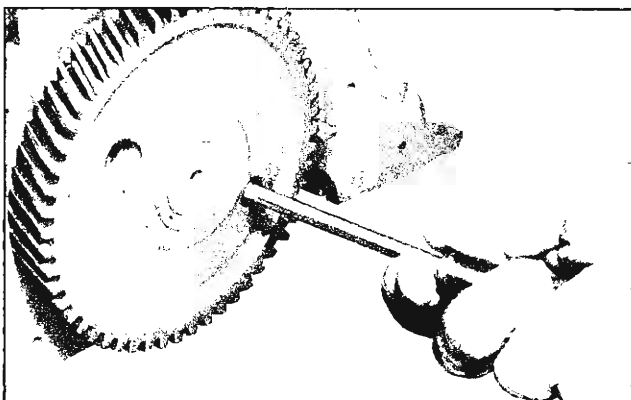

Fig. 35—Removing Camshaft Thrust Plate Screws
8. Remove the two camshaft thrust plate screws by working through holes in the camshaft gear (fig. 35).